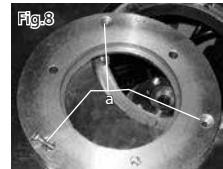

Fig.8
2. With the screws removed, you can see the three insert leveling screws (Fig.8-A).